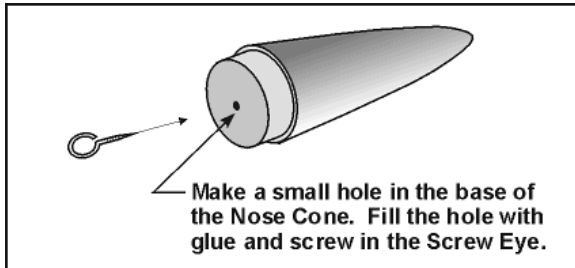

Figure 28
28. Referring to **Figure 28**, make a hole near the center of the base of the **Nose Cone**. Fill the hole with glue then screw the **Screw Eye** into place. Screw it in all the way. (**Thing-a-ma-FACT**: The **Nose Cone** is the very top of the rocket and provides a smooth shape that cuts easily through the air. The **Screw Eye** is an attachment point that allows you to connect the nose cone to the body tube in a later step)